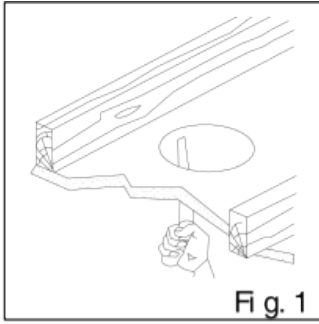

Fig. 1
1. Cut a diameter $\varnothing 125\sim 130$ mm hole in the ceiling. (Fig.1)